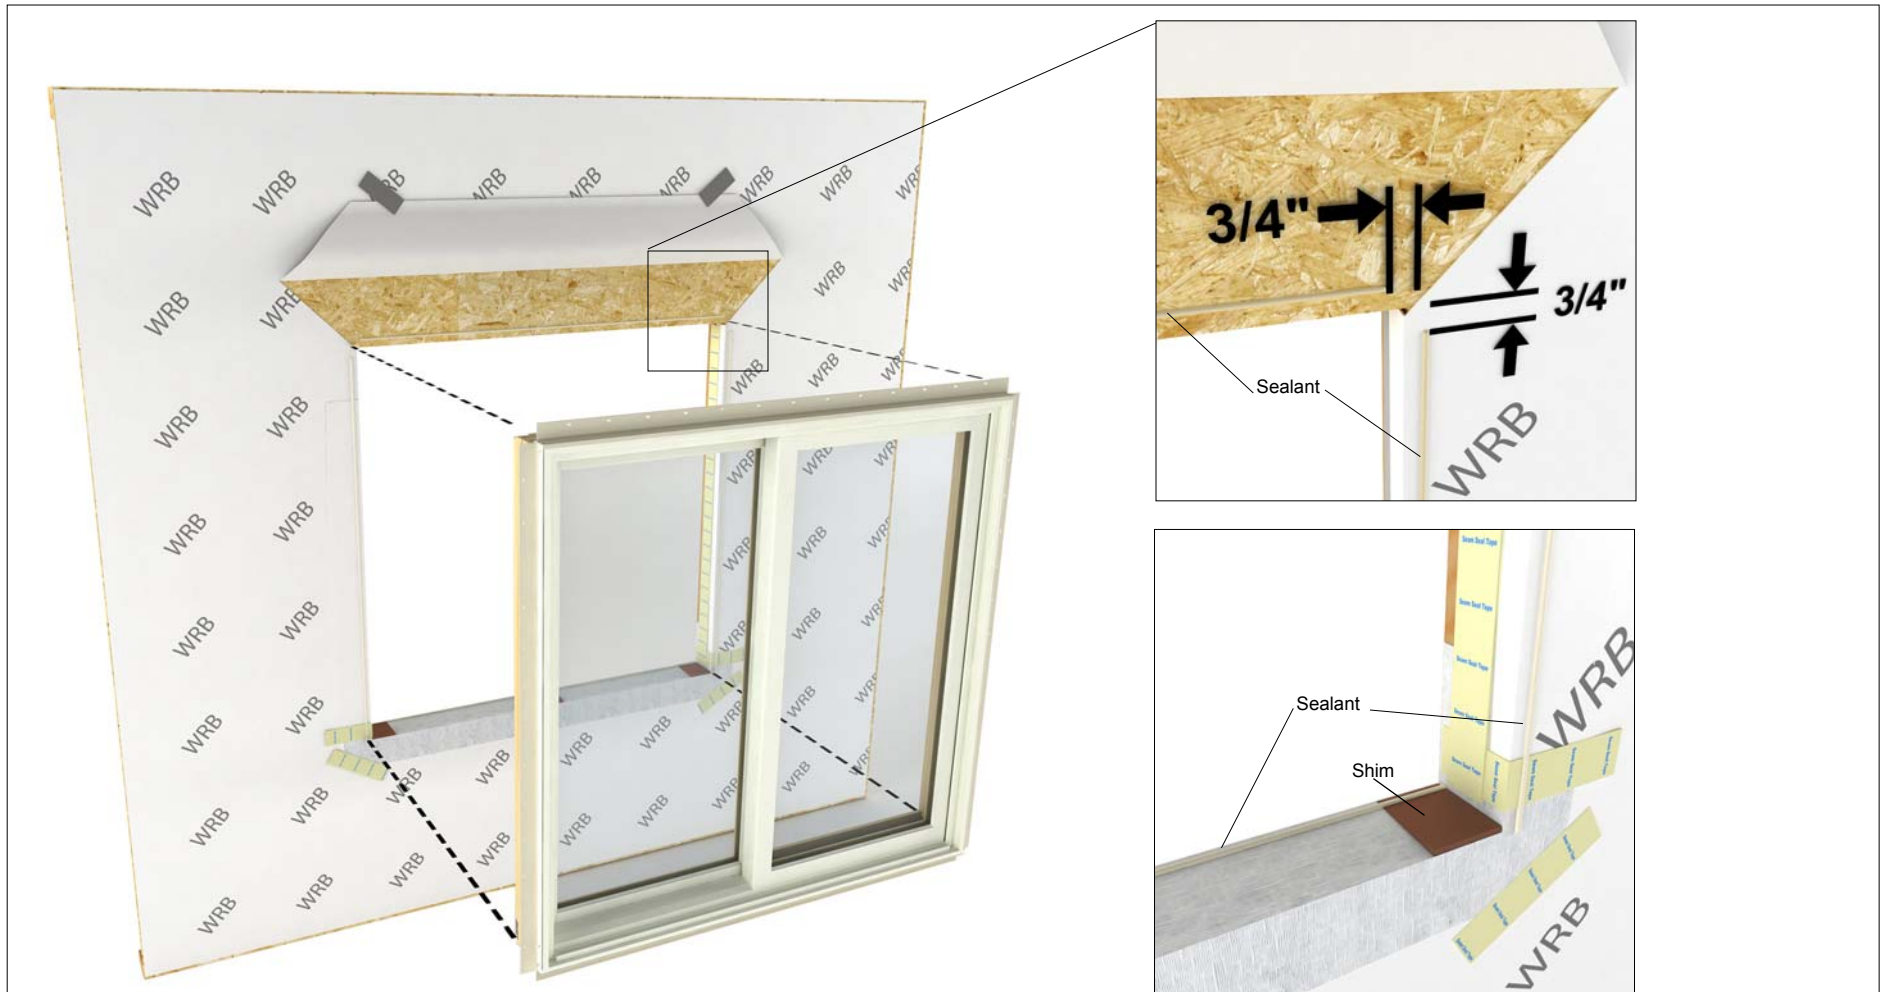

Figure 3 Install the window per installation instructions sent with the unit.
1. Starting in 3/4"(19) from the side, apply 1/4"(6) to 3/8"(10) bead of sealant 1/2"-3/4"(13-19) across the top of the RO stopping 3/4"(19) in from the end. Apply sealant down both sides of the window opening in the same manner. Do not apply sealant across the RO bottom. See figure 3.